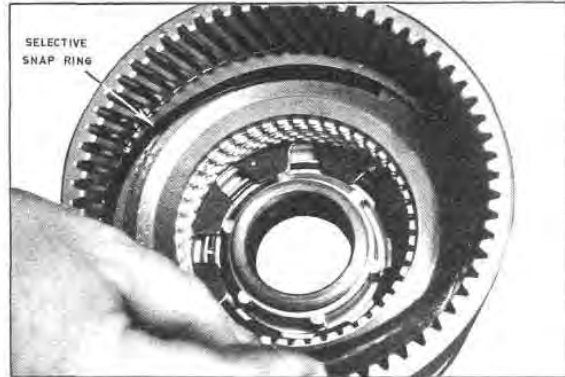

Fig. G65 — Installing the Selective Snap Ring
25. Install one of the selective snap rings, as shown in Figure G65, to obtain the proper clearance of .046" to .066". The minimum clearance is recommended.